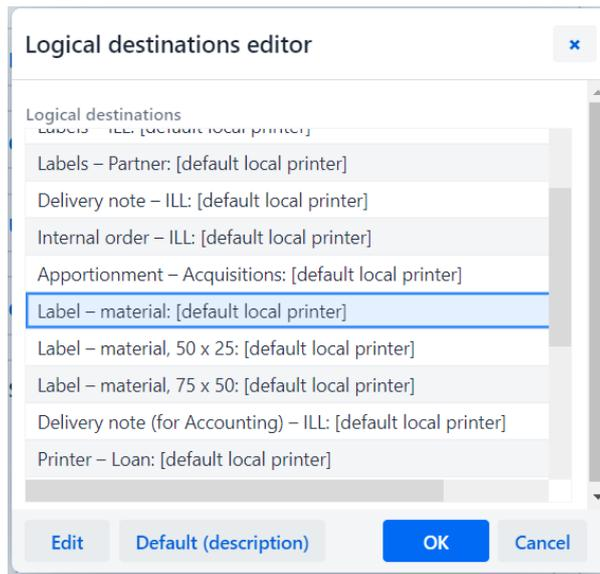

Figure 11: Logical destination editor
- Figure 11: Logical destination editor7
The **Logical destinations editor** window will open where you select the option *Label – material: [default local printer]* and click **Edit** (Figure 11).